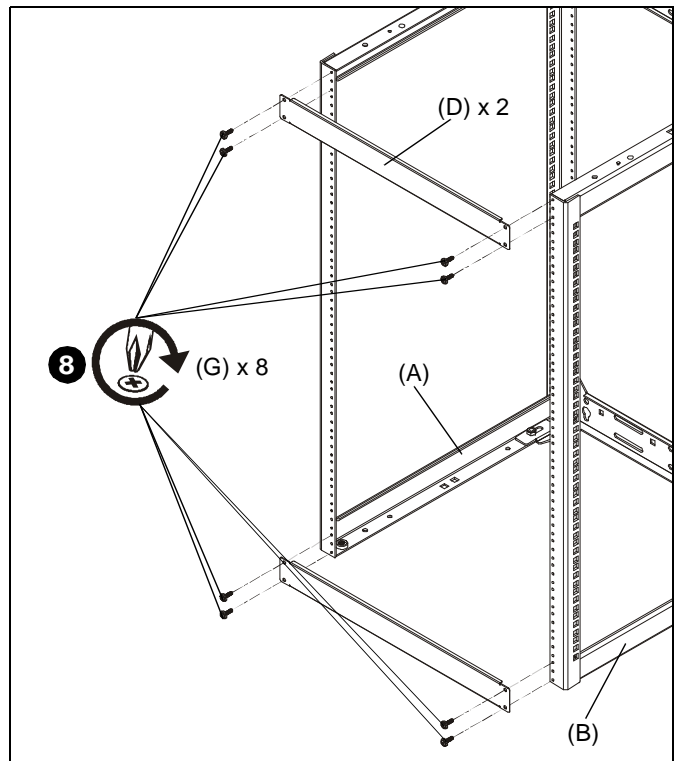

Figure 4
8. Use eight #10-32 x 3/4" Phillips machine screws (G) to secure two front panels (D) to frames (A and B). (See Figure 4)